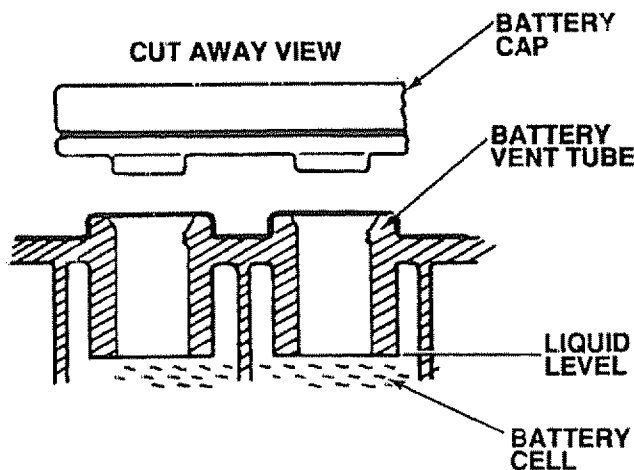

FIGURE 15
- a. Battery acid solution level in each battery cell should be even with bottoms of vent tubes in cells (Fig. 15). Add ONLY distilled or iron free water if necessary. NOTE: DO NOT OVERFILL.